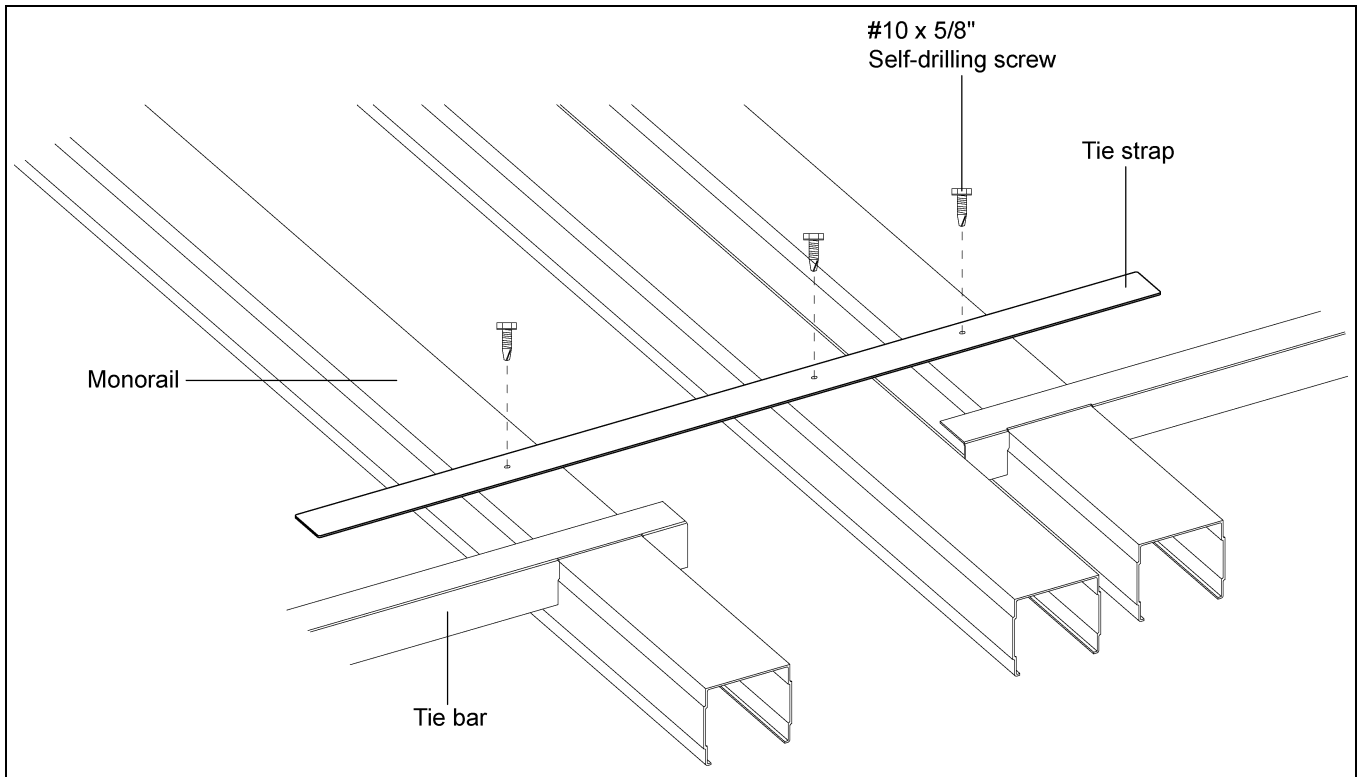

Figure 4D Strap Detail
1. Tie straps should be used when a tie bar cannot be used to connect rails together due to special spacing of monorail. Tie strap should be connected to all three rails using self-drilling screws. (See Figure 4D.)